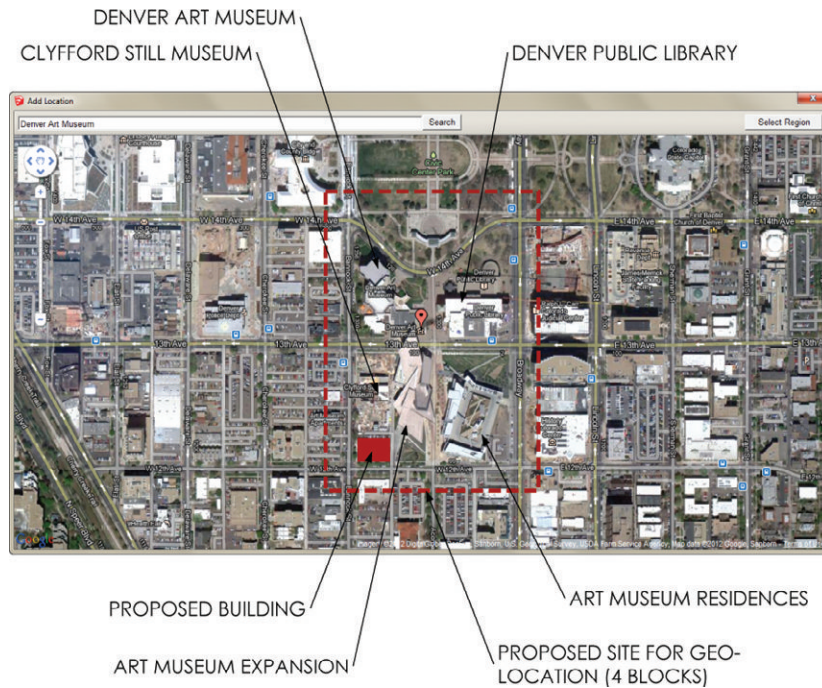

Figure 16.1 The proposed context zone and building site
in SketchUp? In this chapter, you will collect and build the context near the Golden Triangle Museum District in Denver (Figure 16.1).
3. Enter **Denver Art Museum** in the search bar and zoom out several clicks to locate the site, as shown in Figure 16.1.